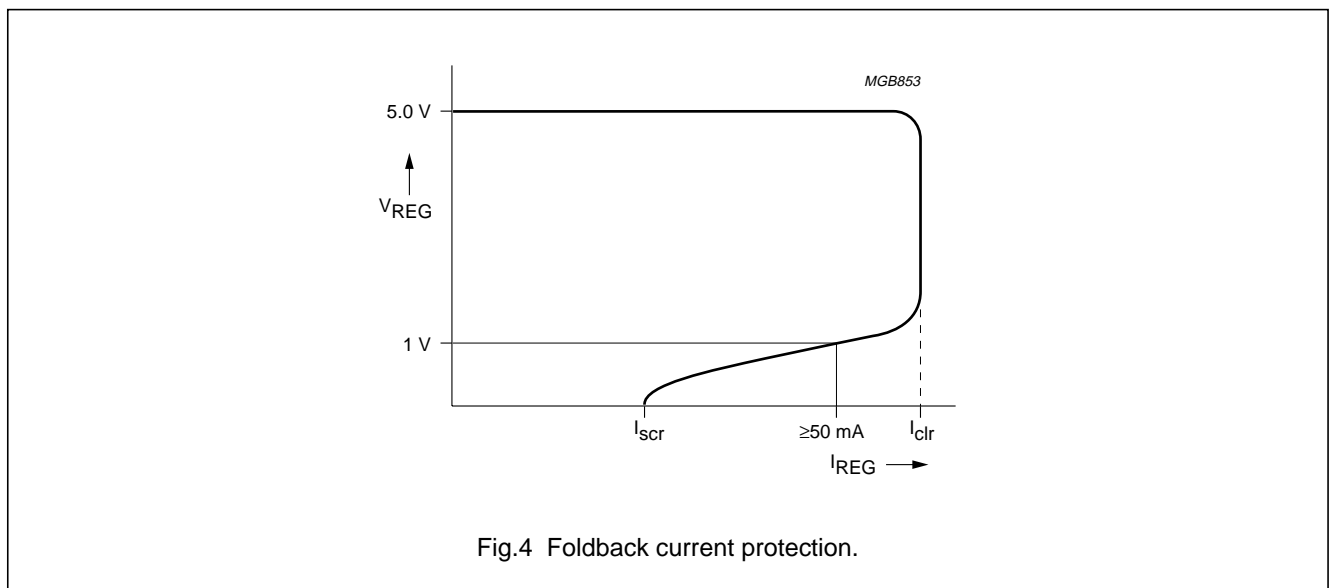

Fig.4 Foldback current protection.
- At current limit, I_{clr} is held constant (behaviour according to dashed line in Fig.4).
- The foldback current protection limits the dissipated power at short-circuit (see Fig.4).